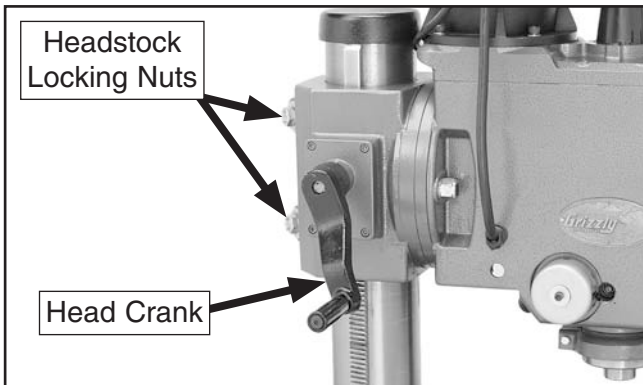

Figure 36. Headstock travel controls.
3. Tighten the headstock locking nuts. (Refer to **Figure 36** for the location of the headstock locking nuts).
1. Using the lug wrench provided, loosen the two headstock locking nuts shown in **Figure 36**.
2. Turn the Z-axis head crank shown in **Figure 36** to raise or lower the headstock, then tighten the headstock locking nuts.